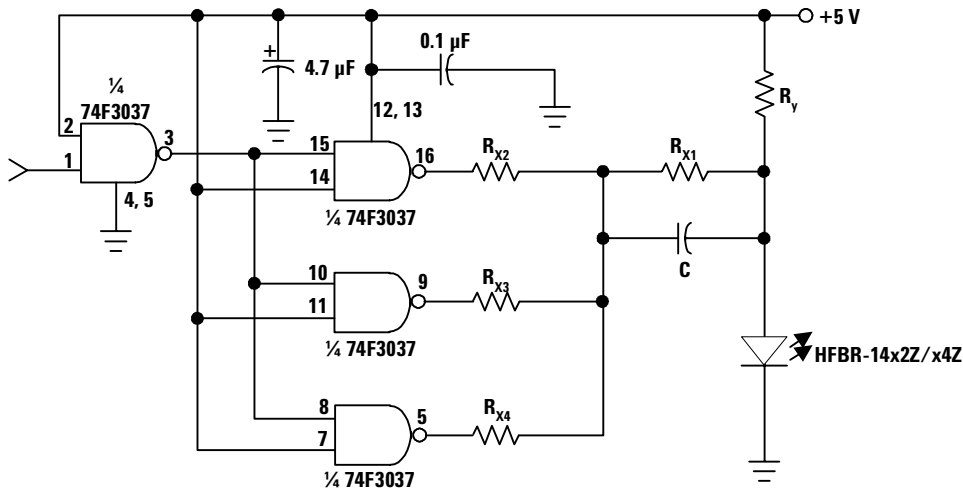

Figure 11. Recommended Drive Circuit.
- Pre-bias is recommended if signal rate $>10\text{ MBd}$, see recommended drive circuit in Figure 11.
The circuit used to supply current to the LED transmitter can significantly influence the optical switching characteristics of the LED. The optical rise/fall times and propagation delays can be improved by using the appropriate circuit techniques. The LED drive circuit shown in Figure 11 uses frequency compensation to reduce the typical rise/fall times of the LED and a small pre-bias voltage to minimize propagation delay differences that cause pulse-width distortion. The circuit will typically produce rise/fall